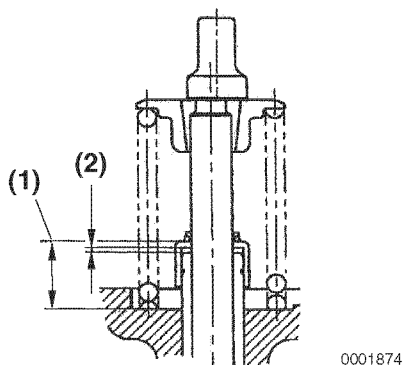

Figure 6-29
2. Measure the distance (**Figure 6-29, (1)**) from the cylinder head to valve stem seal to ensure proper clearance (**Figure 6-29, (2)**) between the guide and the seal. See *Valve Stem Seal Projection specification on page 6-9*.